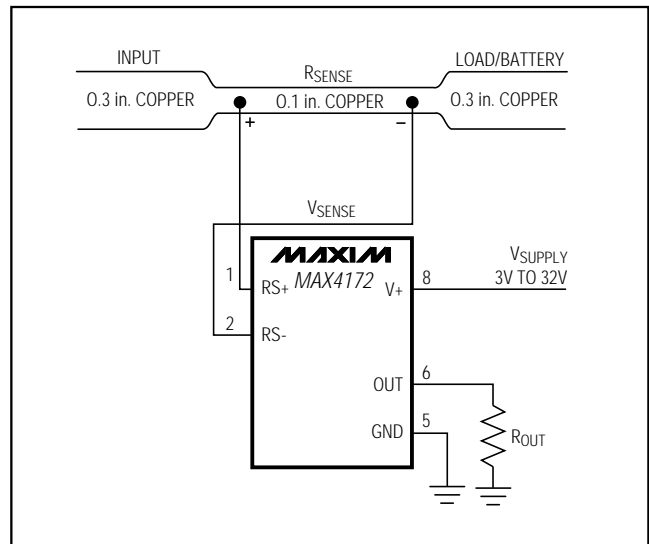

Figure 2. MAX4172 Connections Showing Use of PC Board
- Cost:** If the cost of R_{SENSE} is an issue, you might want to use an alternative solution, as shown in Figure 2. This solution uses the PC board traces to create a sense resistor. Because of the inaccuracies of the copper resistor, the full-scale current value must be adjusted with a potentiometer. Also, copper's resistance temperature coefficient is fairly high (approximately 0.4%/°C).
In Figure 2, assume that the load current to be measured is 10A, and that you have determined a 0.3-inch-wide, 2-ounce copper to be appropriate. The resistivity of 0.1-inch-wide, 2-ounce (70 μ m thickness) copper is 30m Ω /ft. For 10A, you might want $R_{SENSE} = 5m\Omega$ for a 50mV drop at full scale. This resistor requires about 2 inches of 0.1-inch-wide copper trace.